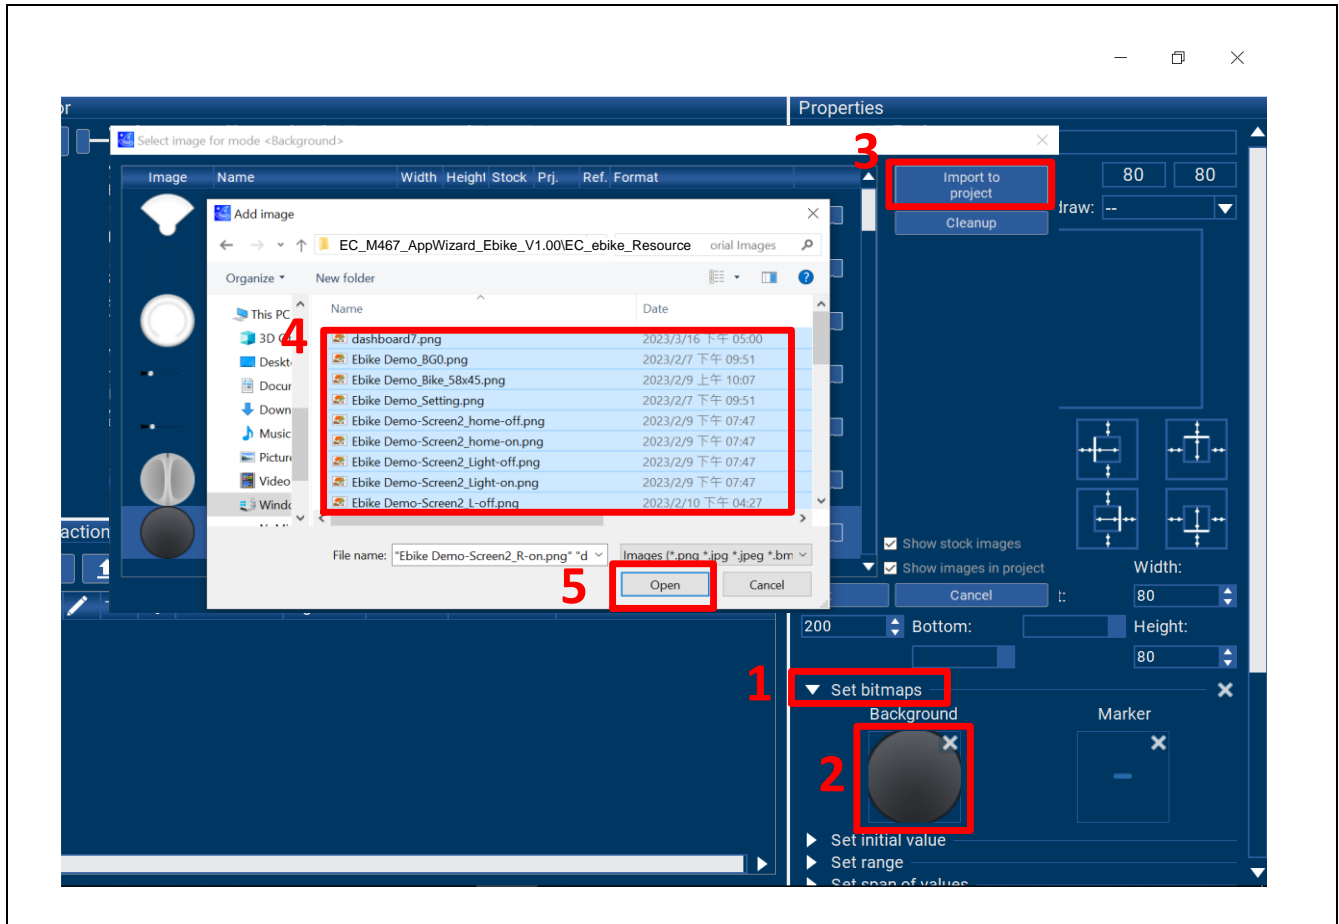

Figure 1-11 Rotary - Properties - Bitmap
- 1) Follow the steps shown in Figure 1-11. Click on "Set bitmaps" and configure the custom image for Background by selecting "Import to project" and choosing the image resources that will be used in the project at once. The images used in this project can be referred to in the directory information of Figure 4-1. Select the PNG image files from the following path: